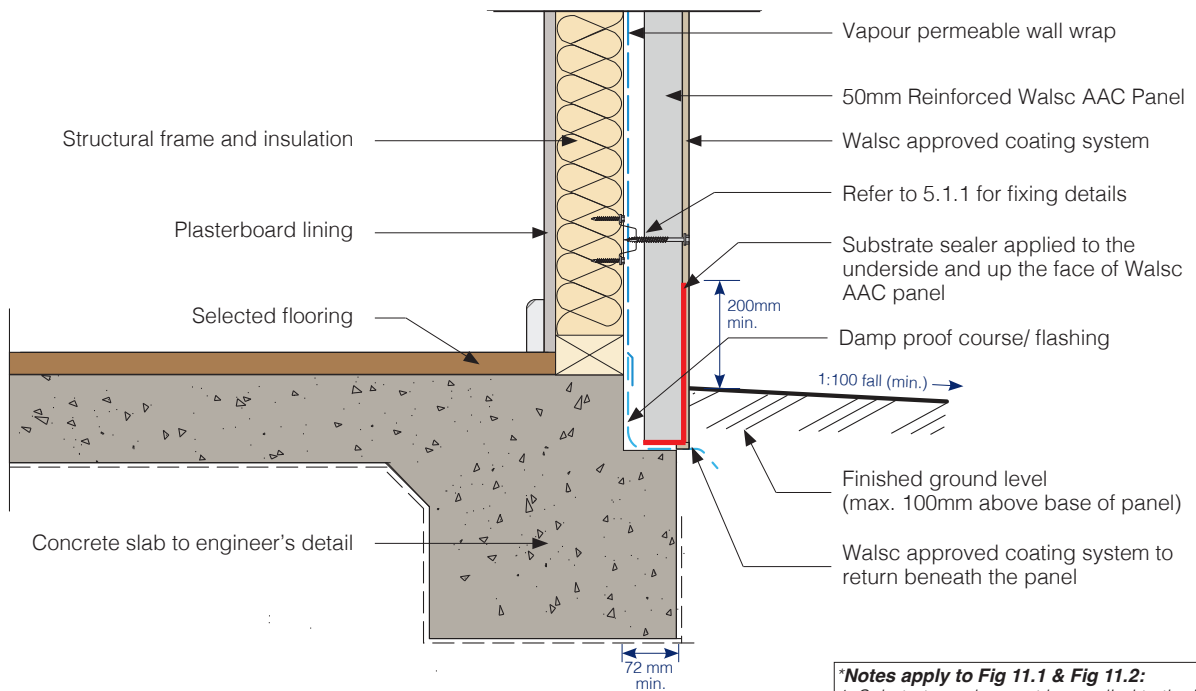
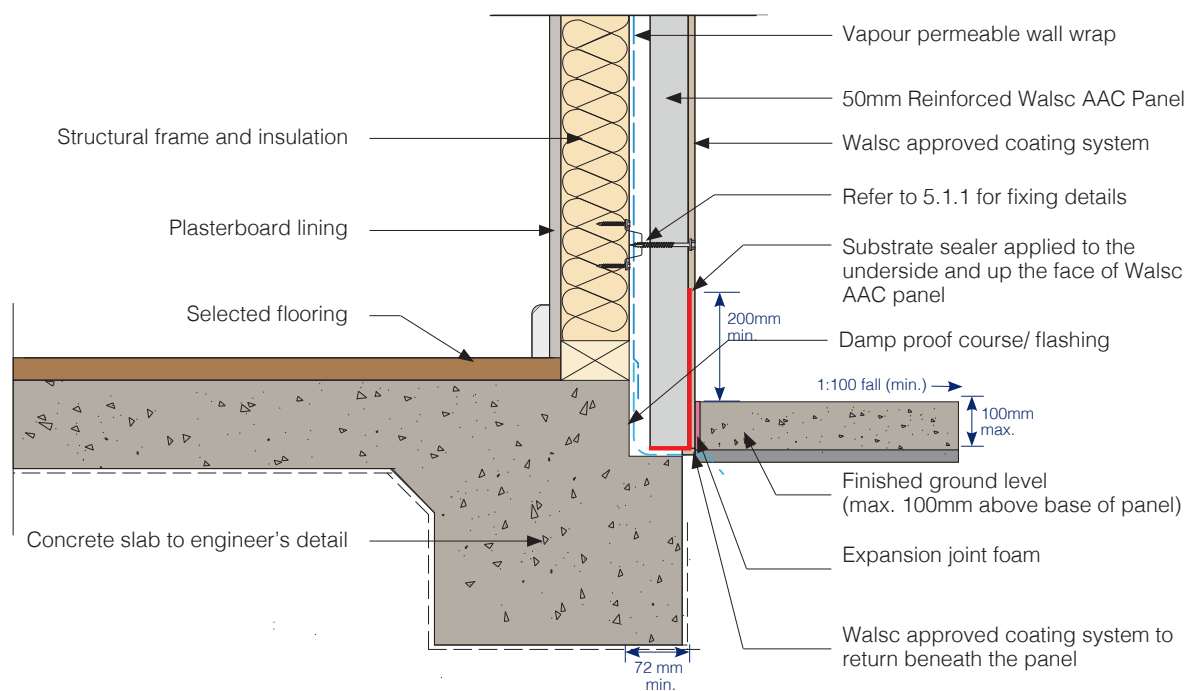

Fig 11.1 Junction to Panel Below Finish Ground Level Detail 1
Fig 11.2 Junction to Panel Below Finish Ground Level Detail 2
***Notes apply to Fig 11.1 & Fig 11.2:**